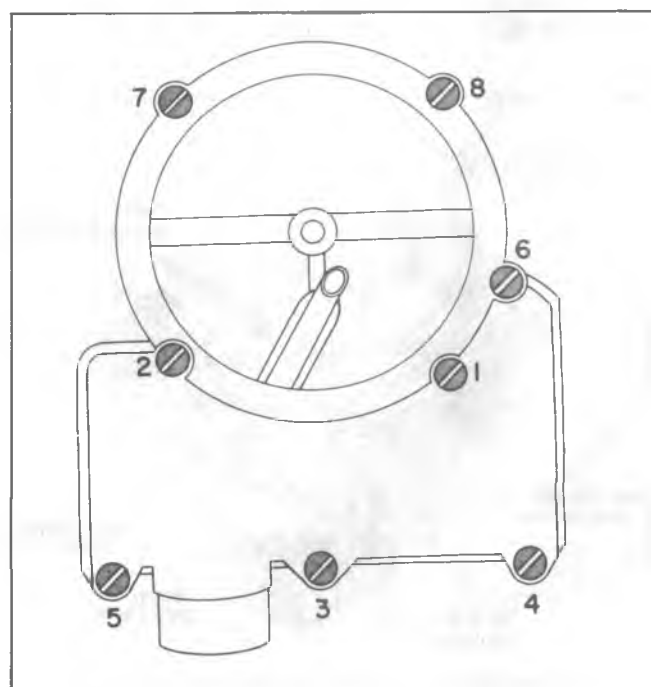

Fig. 6C1-27--Tightening Sequence
lever link into notched hole in choke coil lever on choke housing. Then carefully twist and lower air horn onto float bowl. Install three long and one short air horn to float bowl attaching screws and lockwashers (Fig. 6C1-26).
3. Install the choke vacuum break diaphragm assembly using two short air horn screws opposite the choke housing, connecting the choke vacuum break diaphragm link to slotted diaphragm plunger stem. The two attaching screws for the choke vacuum break assembly have tapered heads for locating choke diaphragm bracket. Make sure to use these in this location. Tighten all air horn screws evenly and securely using proper tightening sequence (Fig. 6C1-27).